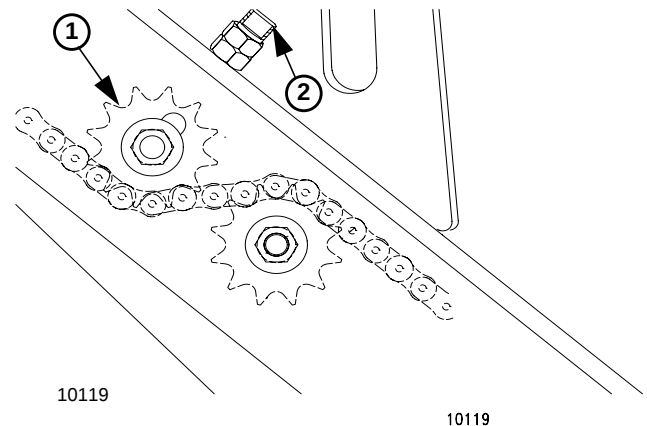

Figure 3-4
To adjust idler sprocket, refer to Figure 3-4. Move top idler sprocket (1) down into chain by loosening jam nut and screwing in adjustment stud (2). Retighten jam nut to maintain idler position.